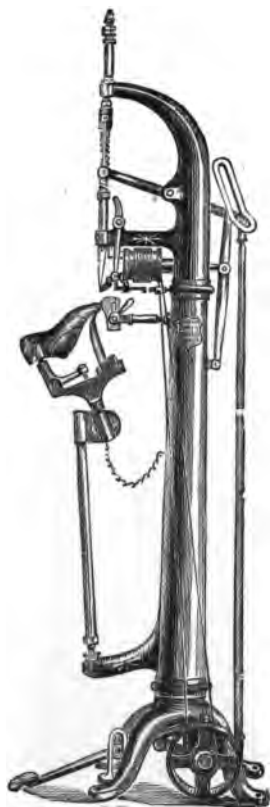

Fig. 81.—PATENT MAGNETIC
**Patent Magnetic Lasting Machine.**—No machine yet invented has been found equal to the complete lasting of a boot or shoe. That shown in Fig. 81 and described as in